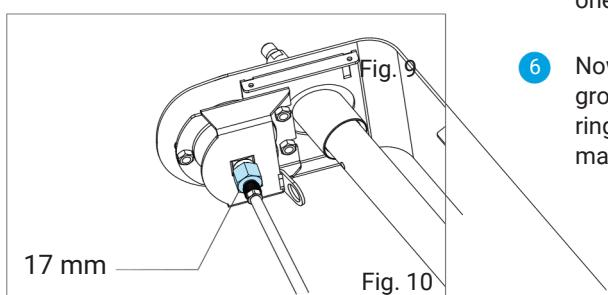

Fig. 10
- 5 Then use a 17 mm open-end wrench to loosen the screw-on fitting directly under the manometer at the tube attachment (Fig. 10).
10 Now connect the pump tube - if loosened - to the manometer and hand-tighten the screw-on fitting (with the 17 mm open-end wrench (Fig. 10).